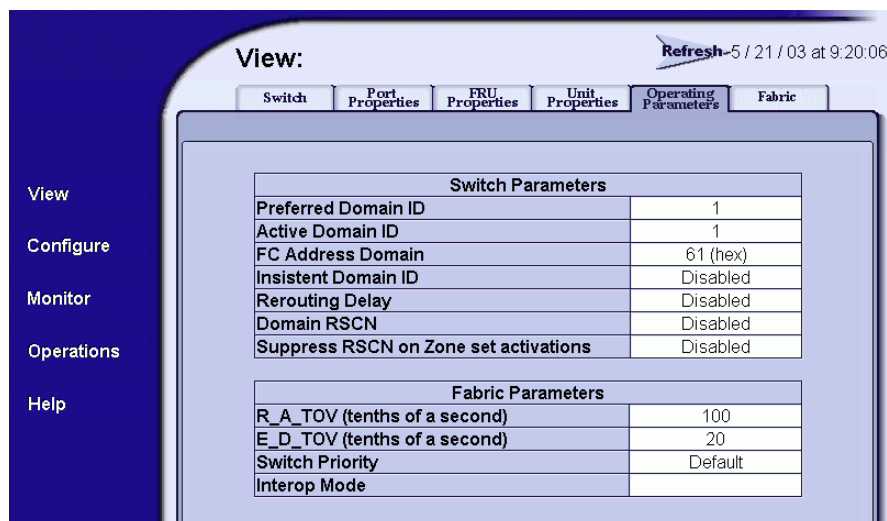

Figure 30: Operating Parameters tab view
2. Choose the **Operating Parameters** tab. The **Operating Parameters** tab view displays (Figure 30) showing **Switch Parameters** and **Fabric Parameters**.